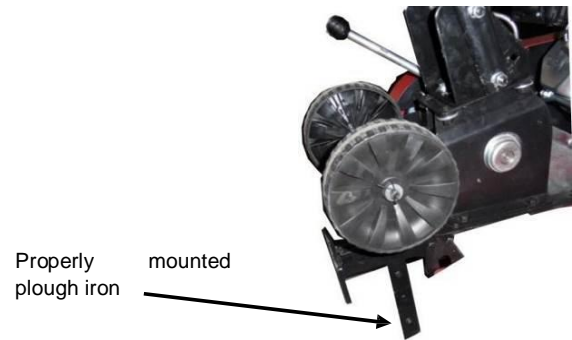

Figure 8
2. Screw off two M10 nuts in the rear part of the frame with 17-mm key (purchased separately), take off flat washer, retaining washers, and after removing M10x75 bolts, take off plough iron bracket together with plough iron (Figure 8).
1. Set the plough iron (Figure 8) and the plough iron bracket with wheels upwards.
Note: For efficient work performance, make sure that the plough iron is properly located as compared to the plough iron bracket (Figure 8).